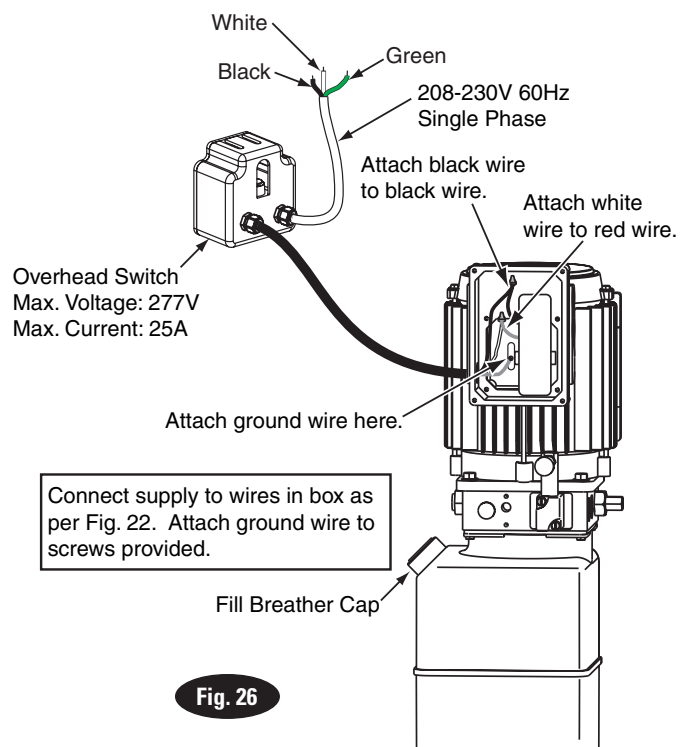

Fig. 26
- 20. Overhead switch:** Check overhead switch assembly to assure that switch bar is depressing switch plunger sufficiently to actuate the switch. The overhead switch is wired normally open, see Fig. 26. Lift will not operate until weight of switch bar is depressing switch plunger. Verify that Power Unit stops working when switch bar is raised, and re-starts when the bar is released.